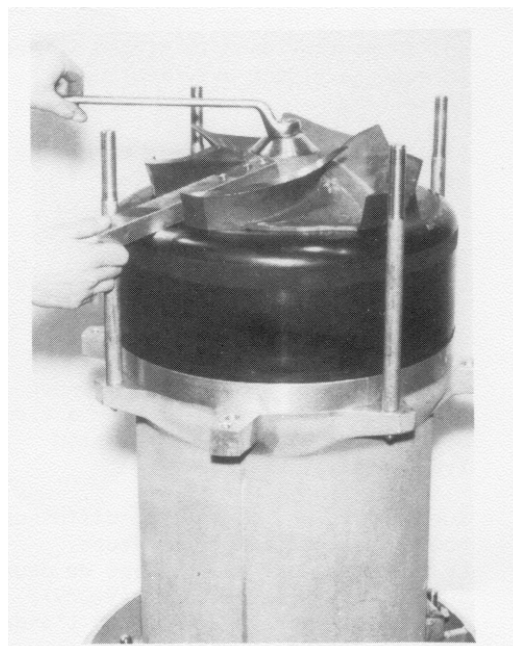

Fig 13
- Put on the driving sleeve : The trimming washers P/N W494044 ,The impeller P/N W491011(60Hz) W491010(50Hz) the protective housing P/N W491046 and the nut P/N W84215 **Fig 13** .